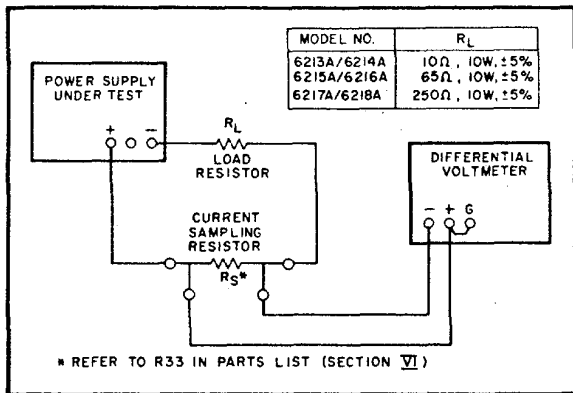

Figure 5-10. Constant Current, Test Setup
- a. Connect test setup shown in Figure 5-10.
- f. Short out load resistor (RL).
- a. Utilize test setup shown in Figure 5-10.